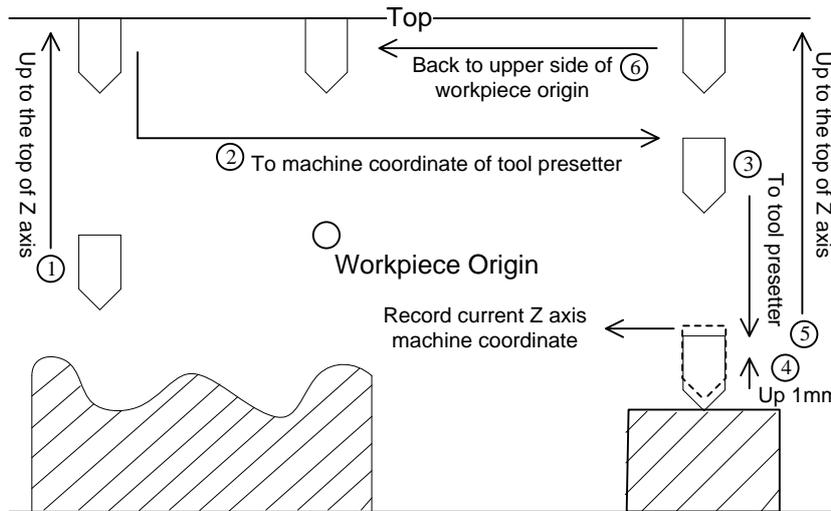

Fig. 3-33 First-time Calibration
- 1) Firstly, manually move Z-axis to workpiece surface, and then confirm workpiece origin by mobile calibration or manual clearing. To clear manually, press key 1 to enter functional area [Advance], and press F4 "Clear Z" in interface 「Coor Manager(1)」.
- 2) Secondly, in interface 「Coor(1)」 under functional area [Machining], press F5 to open dialog box "First Calibration/Calibration after Tool Changed", and then press F1 to start the calibration. The system will automatically record the current machine coordinate of Z-axis. The process is automatically completed by the system, as shown in Fig. 3-33.